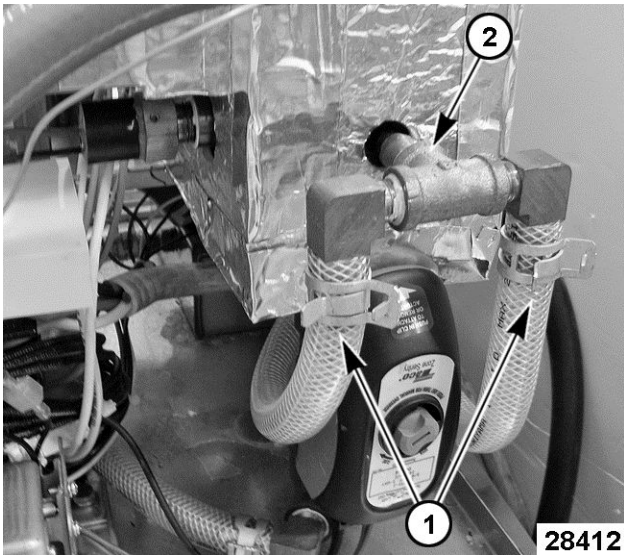

Fig. 85
3. Disconnect the fill hoses (fast & slow) [1] Fig. 85 from water inlet fittings on steam generator tank. Remove pipe tee [2] Fig. 85 from generator tank and retain for reuse.